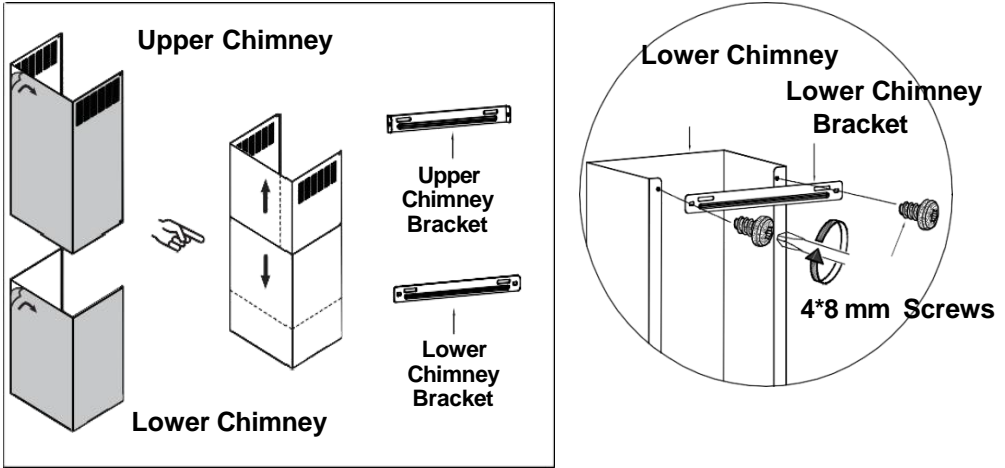

Fig. 12
11. Use two 4*8 mm Screws to fasten the Lower Chimney Bracket on the Lower Chimney. (see Fig. 12)